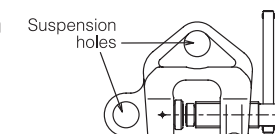

Fig. 4 Suspension holes
- ⑦ Two suspension holes are provided, enabling the load to be suspended from any direction. (Refer to Fig. 4.)